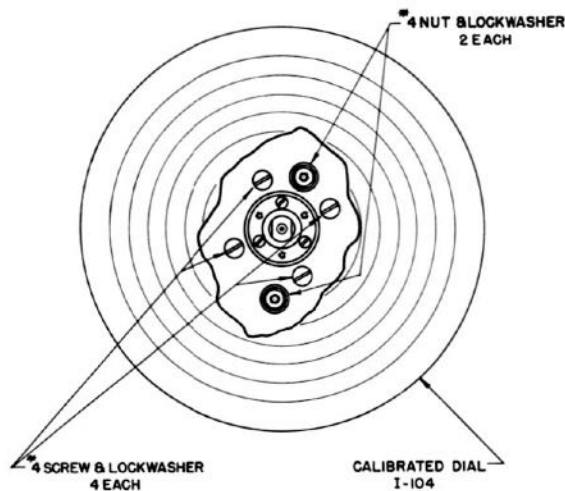

Figure 7-14. RF Signal Generator SG-45A/URM-26, Tuning Capacitor Mounting
f. Remove two nuts and four screws holding tuning capacitor (see figure 7-14).